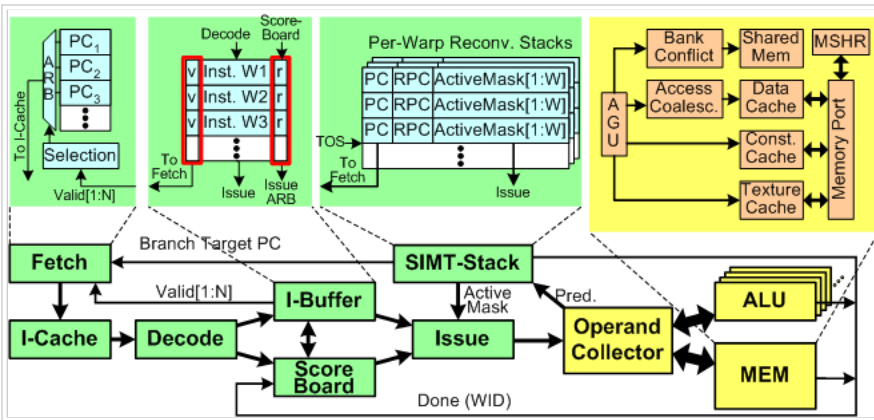

Figure 5: Detailed Microarchitecture Model of SIMT Core
Figure 5 (#label-fig:simt\_core) below illustrates the SIMT core microarchitecture simulated by GPGPU-Sim 3.x. An SIMT core models a highly multithreaded pipelined SIMD processor roughly equivalent to what NVIDIA calls a Streaming Multiprocessor (SM) [1] (<http://developer.nvidia.com/nvidia-gpu-computing-documentation>) or what AMD calls a Compute Unit (CU) [2] ([http://developer.amd.com/gpu\\_assets/GPU%20Computing%20-%20Past%20Present%20and%20Future%20with%20ATI%20Stream%20Technology.pdf](http://developer.amd.com/gpu_assets/GPU%20Computing%20-%20Past%20Present%20and%20Future%20with%20ATI%20Stream%20Technology.pdf)). A Stream Processor (SP) or a CUDA Core would correspond to a lane within an ALU pipeline in the SIMT core.
The following subsections describe the details in Figure 5 (#label-fig:simt\_core) by going through each stage of the pipeline.
The instruction buffer (I-Buffer) block in Figure 5 (#label-fig:simt\_core) is used to buffer instructions after they are fetched from the instruction cache. It is statically partitioned so that all warps running on SIMT core have dedicated storage to place instructions. In the current model, each warp has two I-Buffer entries. Each I-Buffer entry has a valid bit, ready bit and a single decoded instruction for this warp. The valid bit of an entry indicates that there is a non-issued decoded instruction within this entry in the I-Buffer. While the ready bit indicates that the decoded instructions of this warp are ready to be issued to the execution pipeline. Conceptually, the ready bit is set in the schedule and issue stage using the scoreboard logic and availability of hardware resources (in the simulator software, rather than actually set a ready bit, a readiness check is performed). The I-Buffer is initially empty with all valid bits and ready bits deactivated.